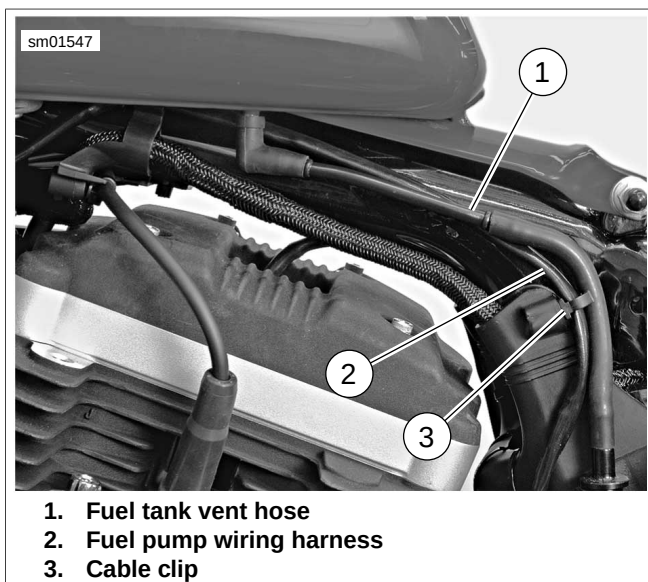
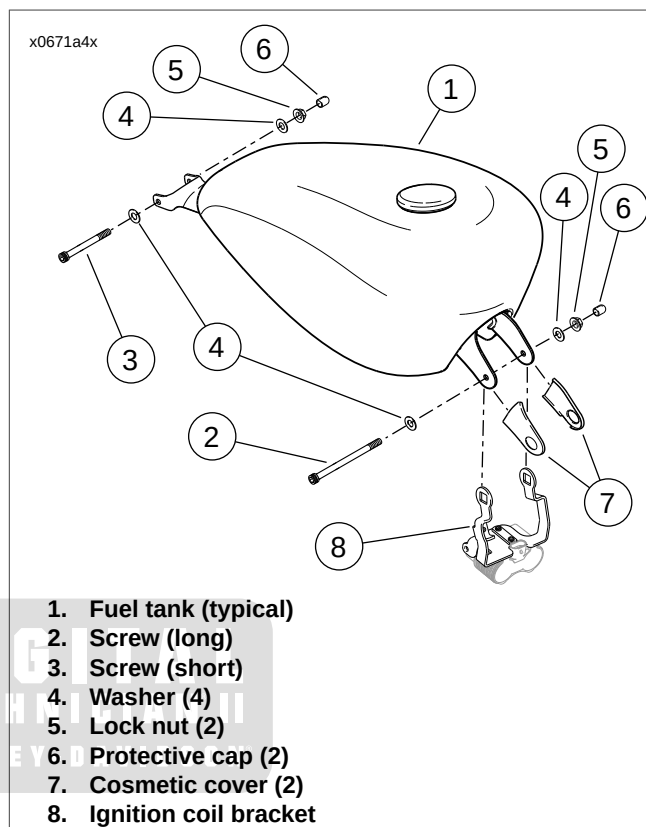

Figure 4-7. Fuel Tank Vent Hose
Figure 4-8. Fuel Tank Mounting (Typical)
4. See Figure 4-7. Remove vent hose from fuel tank vent nipple. Remove cable clip (3) securing fuel pump wiring harness (2) to mounting boss on H-bracket.
2. See Figure 4-8. Position fuel tank on motorcycle. Make certain that front fuel tank brackets are located outboard of ignition coil bracket (8).
3. Place washer (4) on long screw (2). Push screw through front fuel tank bracket, ignition coil bracket and frame, from right to left. Place second washer over screw and hand-start lock nut (5).
7. Lower rear of fuel tank into position. See Figure 4-8. Place washer (4) on short screw (3). Push screw through rear fuel tank bracket and frame, from right to left. Place second washer over screw and hand-start lock nut (5).
8. Tighten both front and rear fuel tank mounting screws to 15-20 ft-lbs (20.4-27.1 Nm). Install protective caps (6) on screw ends.
9. See Figure 4-7. Install vent hose onto fuel tank vent nipple.
2. See Figure 4-7. Install vent hose onto vent nipple on fuel tank.